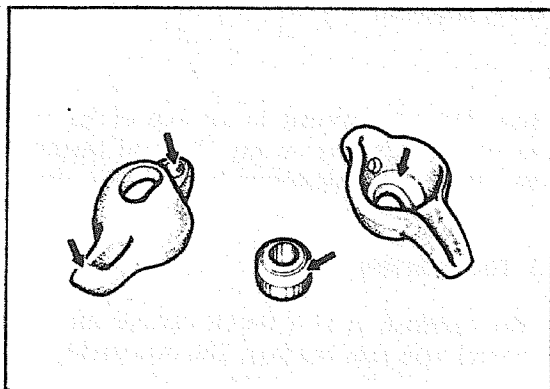

Fig. 16 Checking the Rocker Arm
2. Check the rocker arm stud oil hole and the rocker arm oil hole for clogging. Clean them if necessary. (Fig. 16)